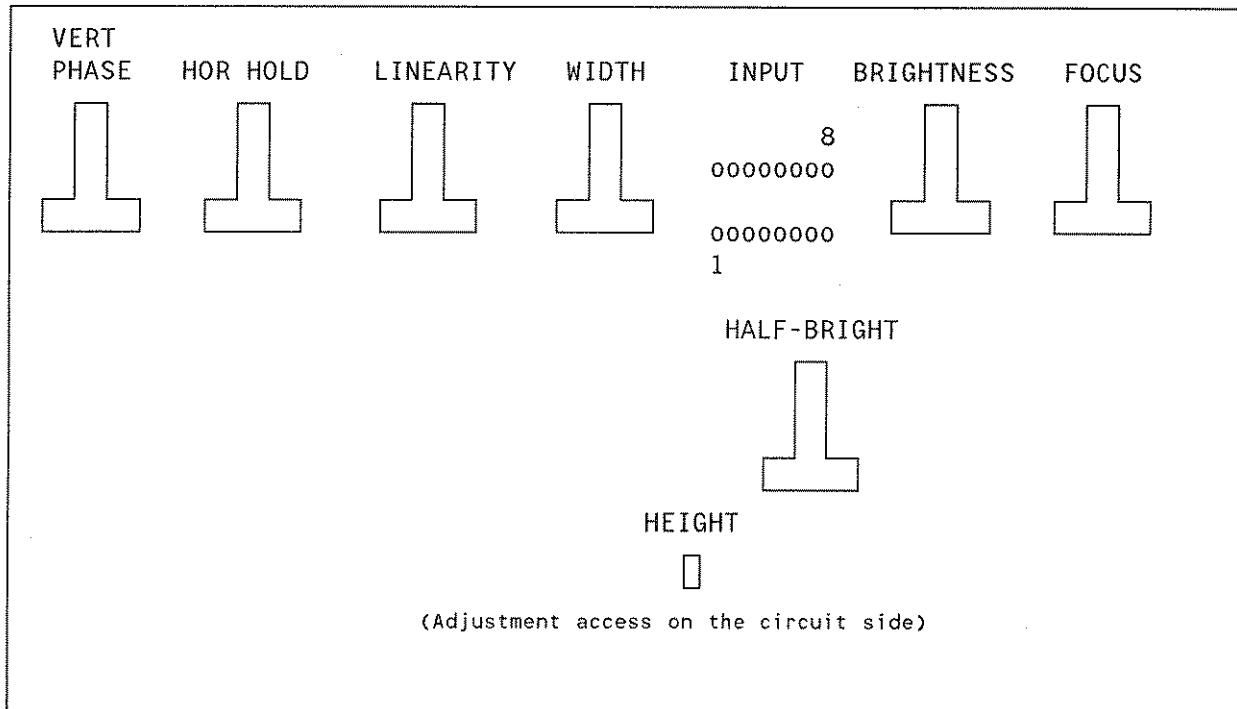

Figure 10-3. Display Adjustment Locations.
7. Adjust BRIGHTNESS control pot to minimum (full counter-clockwise). See figure 10-3 for the display adjustment locations.
7. Adjust the BRIGHTNESS control pot until the Grid Adjustment Pattern is visible. See figure 10-3 for the display adjustment locations.
8. Adjust the HEIGHT and VERT PHASE (position) until the test Test Pattern fills the screen vertically (figure 10-3).